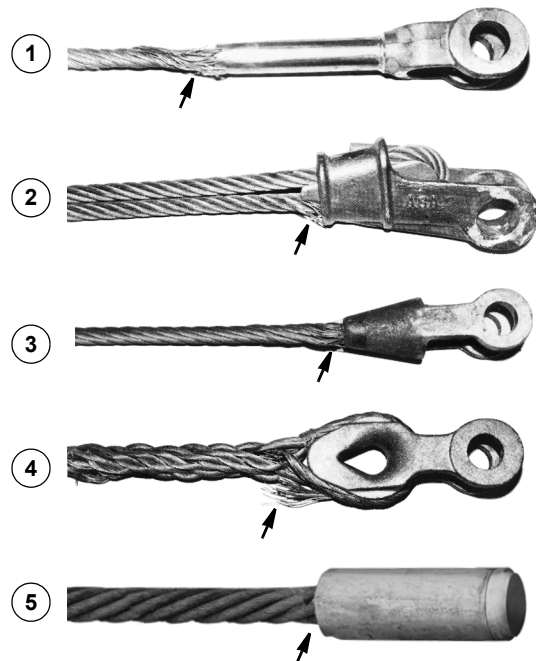

FIGURE 5-8
- STANDING ROPES (pendants) — more than two broken wires in one lay length in sections beyond the end attachment, or more than one broken wire at the end attachment (see Figure 5-8)